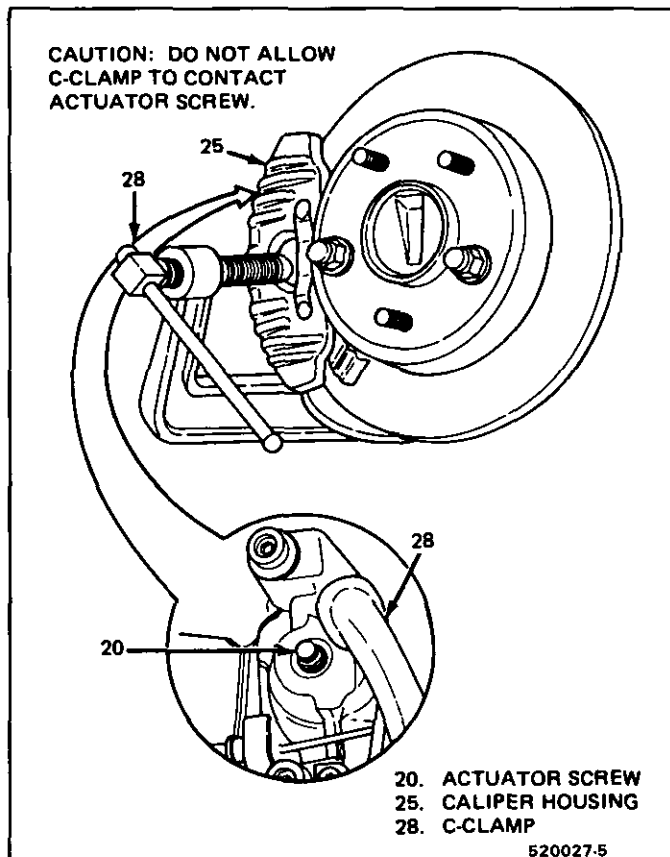

Fig. 4 Compressing Piston
- Liberally fill both cavities in housing (25) between bushings (11) with silicone grease as shown in Figures 4 & 5.